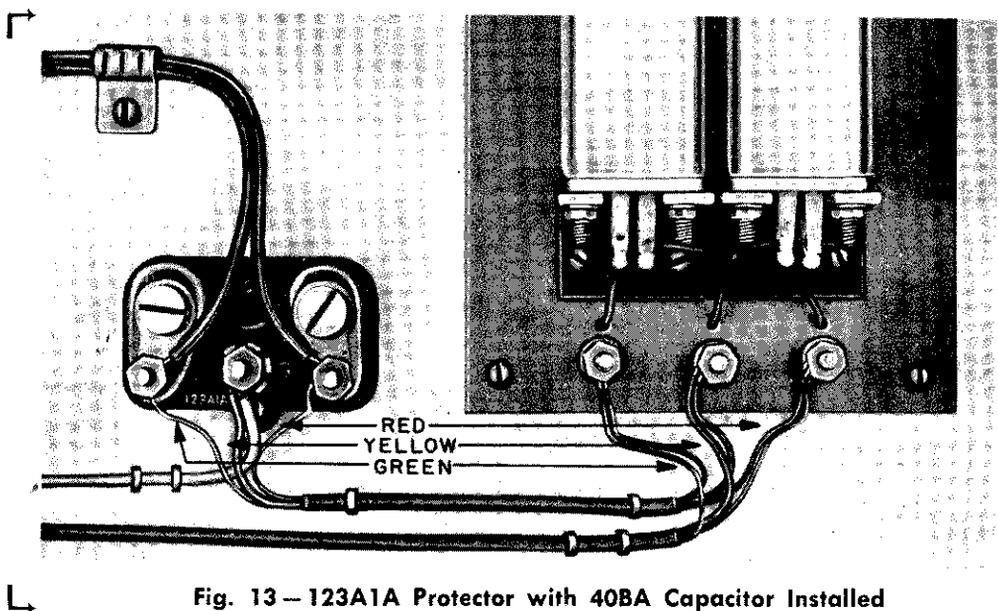

Fig. 13 — 123A1A Protector with 40BA Capacitor Installed
4.10 The 40BA capacitor is installed near the protector as shown in Fig. 13. The inside wires are connected to the capacitor terminals. The capacitor is connected to the protector with a short piece of inside wire. The 40BA capacitor must be mounted inside when an outside protector is used.